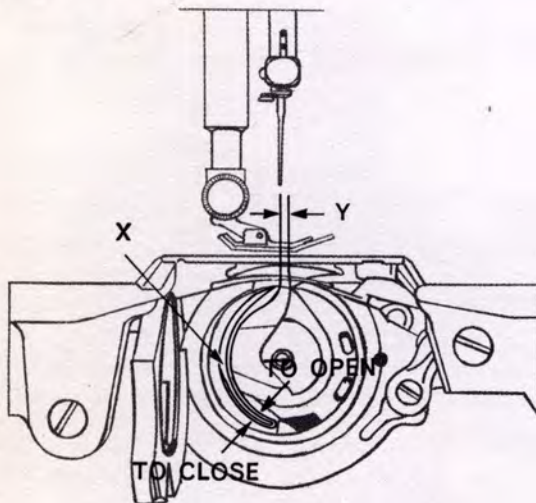

Fig. 13. To adjust Thread Clearance.
1. To close gap, lightly tap outside of shuttle driver X, Fig. 13, with a brass drift.
2. To open gap, lightly tap inside of shuttle driver X, Fig. 13 with brass drift.